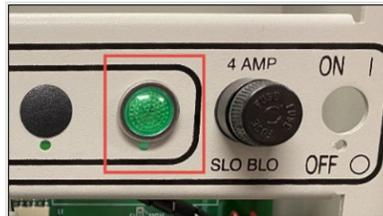

Figure 11 The LED in the Eighth Position
2. Insert the LED into the designated hole (Figures 11 and 12).